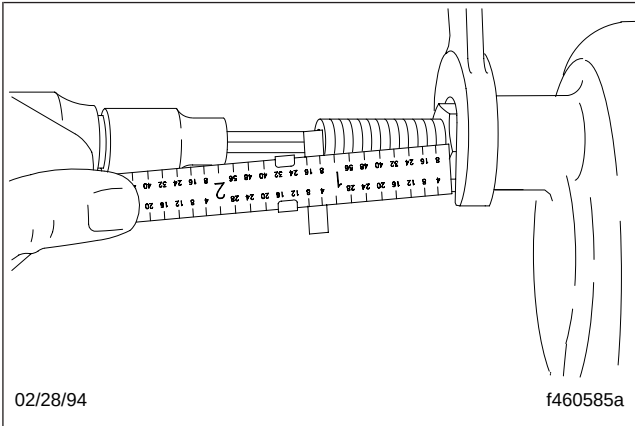

Fig. 2, Adjusting Screw Position
10. Loosen the sealing nut and back out the adjusting screw until the adjusting screw is one inch (2.5 cm) past the nut. See **Fig. 2**. Tighten the nut against the housing.